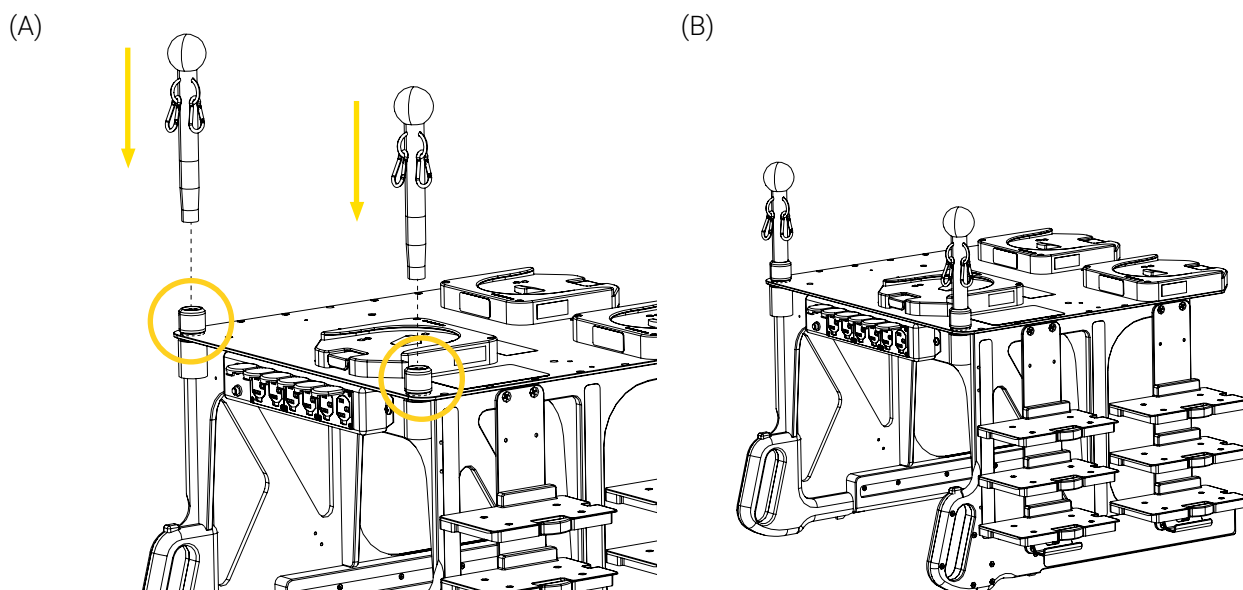

Figure 39: Installing the 13 in. (34 cm) push bars on the mobile structure
3. Rotate one (1) of the two (2) collars on the mobile structure top plate about a quarter of a turn counterclockwise to loosen, then insert a push bar in the holder (Figure 39 A).
4. Rotate the collar about a quarter of a turn clockwise to tighten and secure the push bar (Figure 39 B).